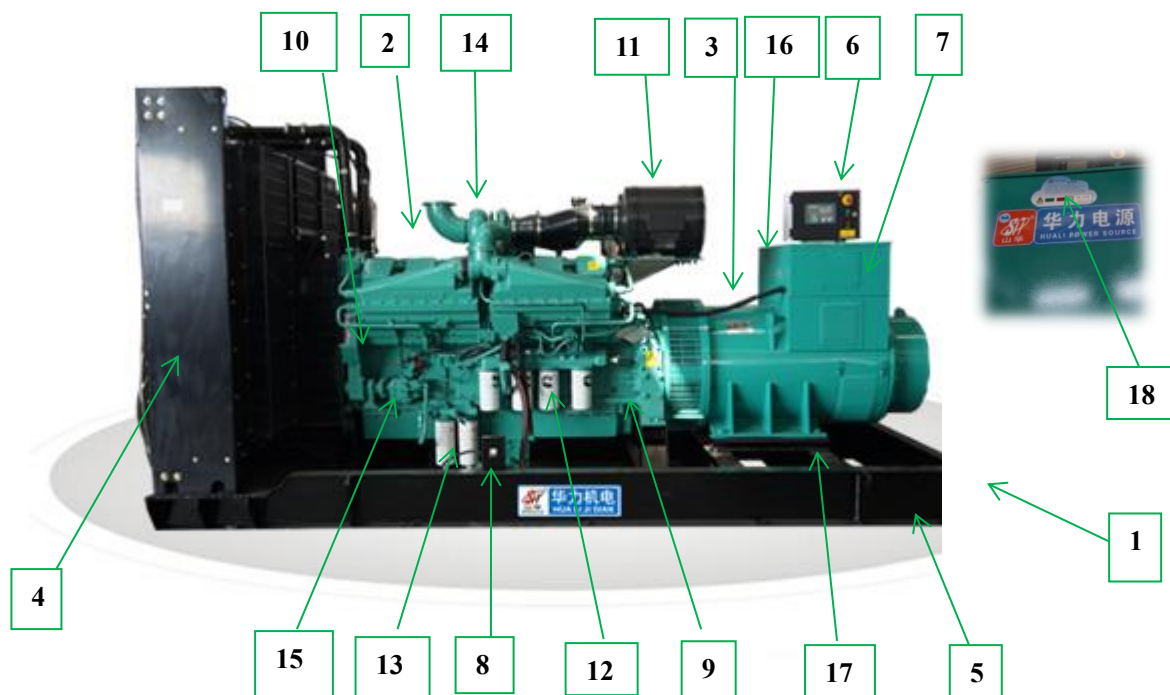

Figure 2.1 Construction diagram of the standard generator set
Huali generator set is composed of diesel engine (2), three-phase AC brush-less synchronous generator (3), output junction box (cabinet) (7), radiator (4), electrical control screen panel (6), fuel tank, silencer and common base frame (5), etc., and provides excellent and reliable performance. Figure 2.1 shows the main components, a construction diagram of a standard generator set. However, there may also be slightly changed depending on the main structure of the different models. The main components are installed on the common base made of welded type steel, easy for movement and installation. The flywheel shell of the diesel engine is